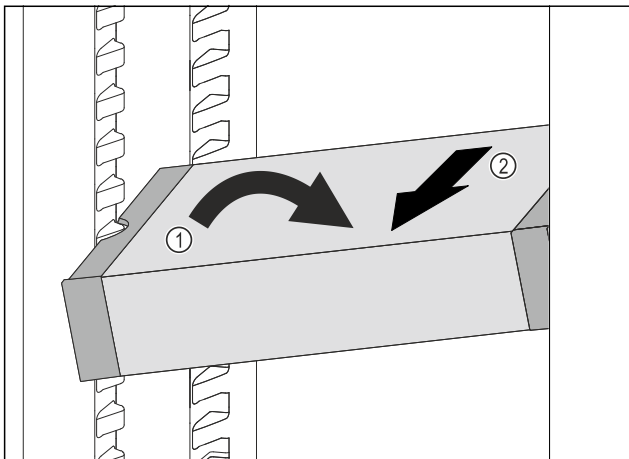

Fig. 73
- ▶ Set VarioSafe in refrigerator compartment at an angle. Fig. 73 (1)
- ▶ Take VarioSafe out to the front. Fig. 73 (2)